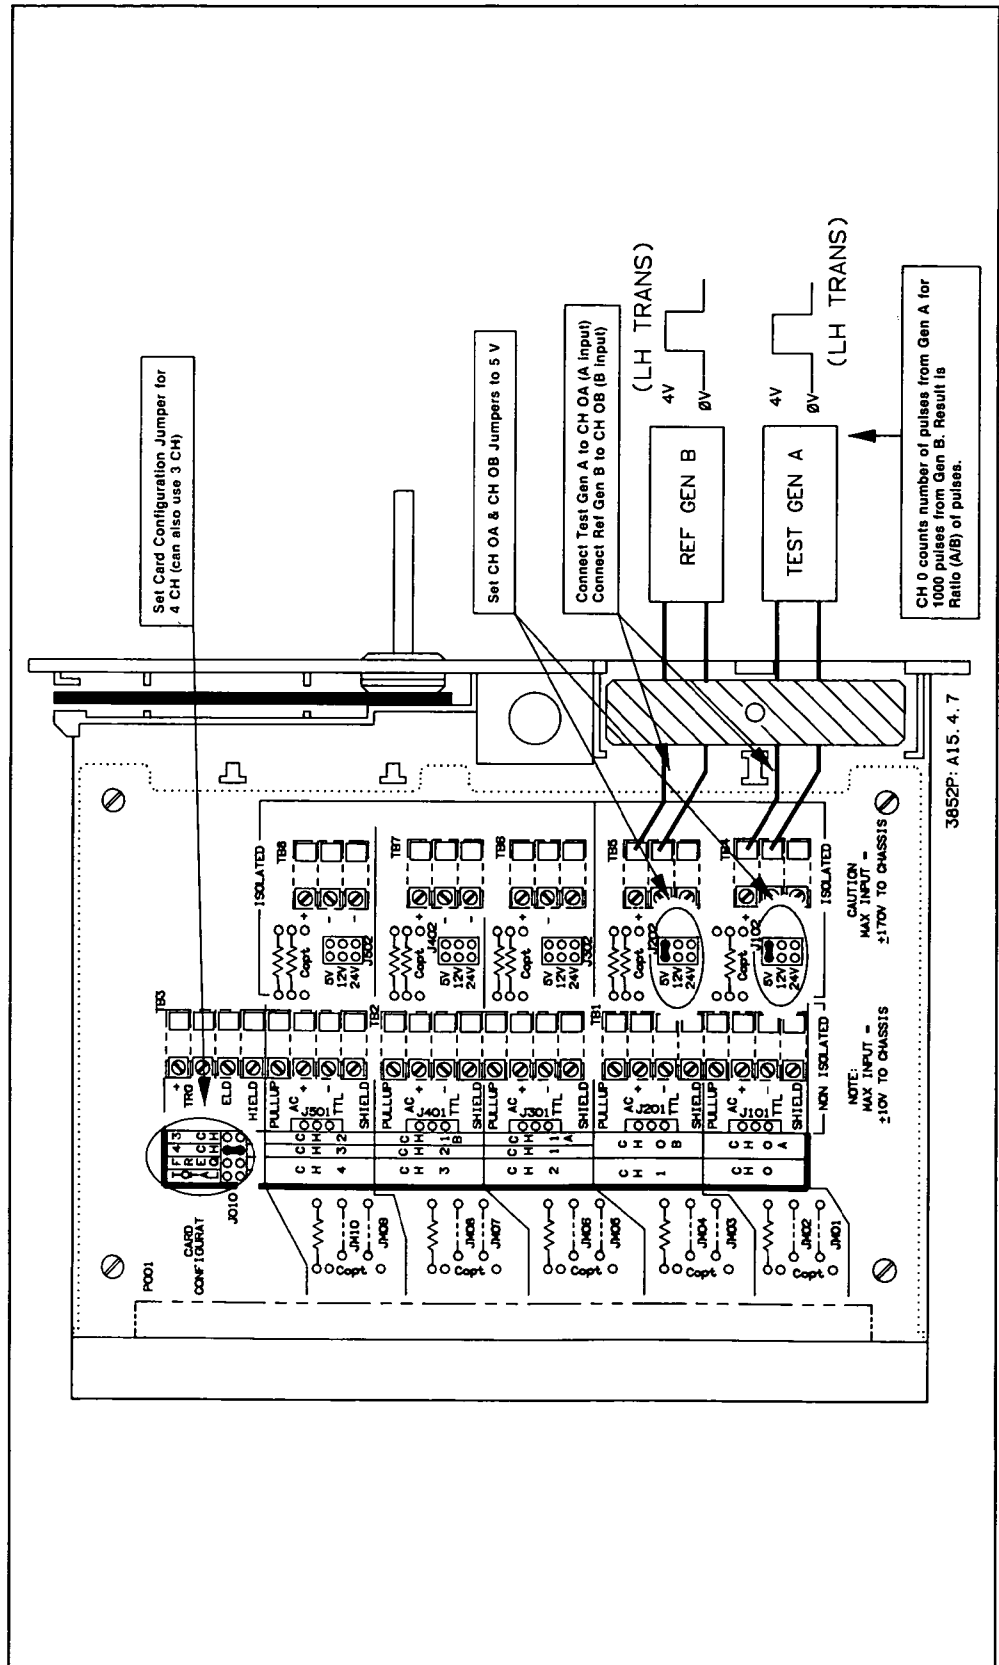

Figure 4-7. Example: Measure Ratio
This example program measures the ratio of the number of pulses output from a test pulse generator (A) to 1000 pulses output from a reference pulse generator (B). When the measurement is complete, a MC interrupt is generated and the interrupt time and ratio (A/B) are returned. See Figure 4-7 for typical connections and counter configuration for channel 500 of a counter in slot 5 of the mainframe.